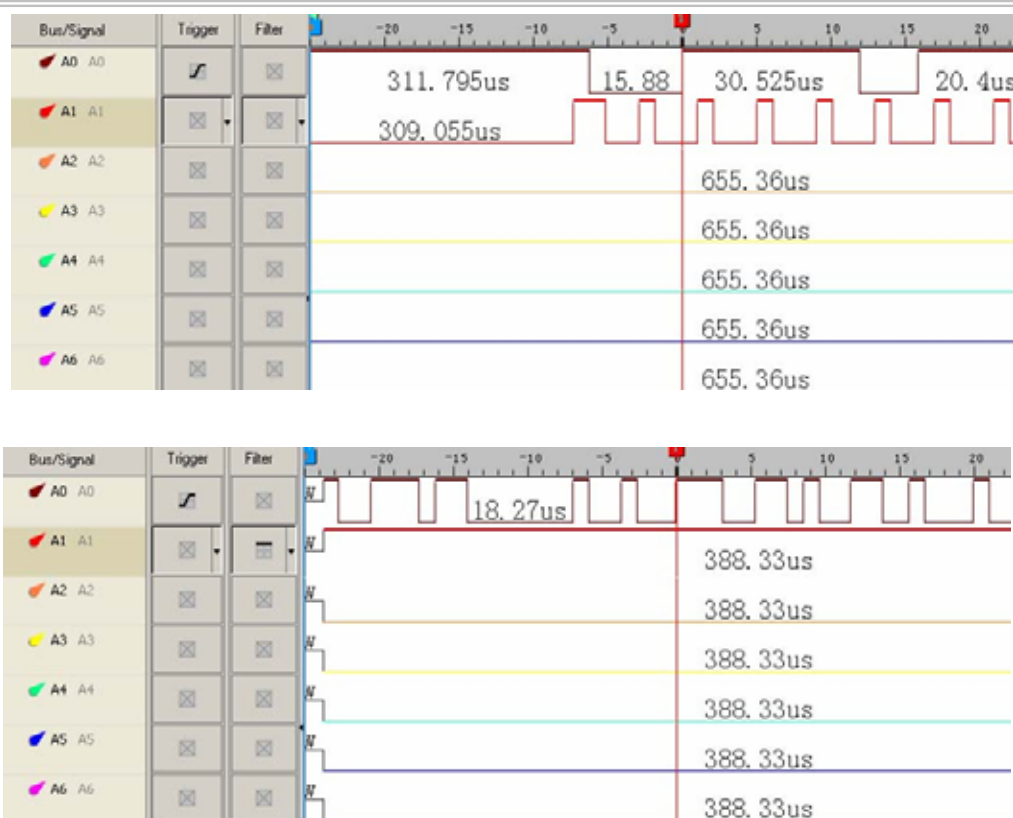

Fig 4-140 – Without/With Signal Filter Setup
6. The result will be displayed in the waveform display area as shown in Fig 4-140.